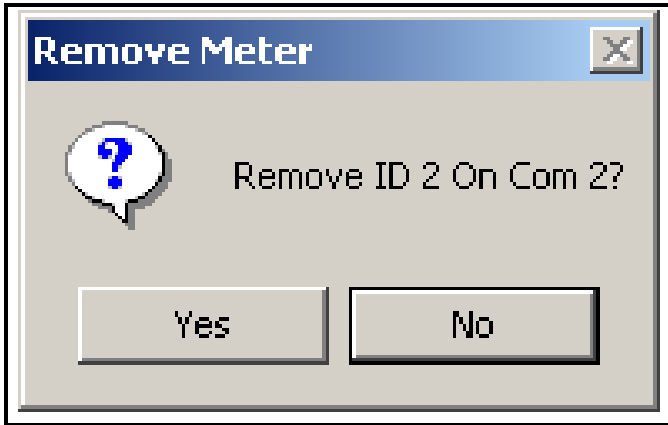

Figure 5-11: Meter Removal Confirmation
1. From the “*Edit*” menu shown in Figure 5-9 on page 5-9, click on the “*Remove*” option. The dialog box shown in Figure 5-11 below appears.